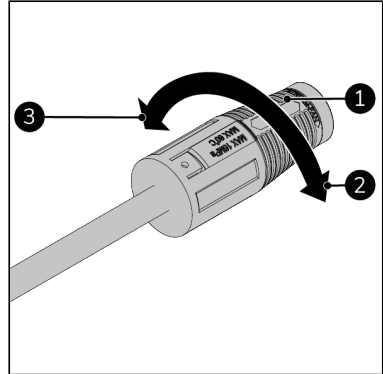

Figure 36.
(Figure 36, pos. 1) to change the jet angle:
- for a smaller (more powerful jet) turn it clockwise (Figure 36, pos. 2).
- for a bigger (less powerful jet) turn it anti-clockwise (Figure 36, pos. 3).